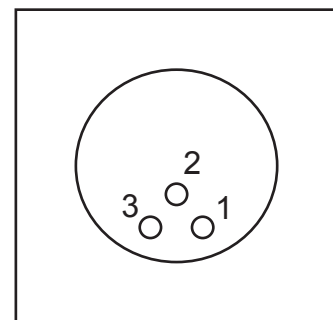

Figure 9: Potentiometer nodes used in Steps 7 & 8.
7. Using Ohmmeter, measure resistance across Node 1 and Node 3 (refer to figure 9). This should measure approximately 5000 ohms.